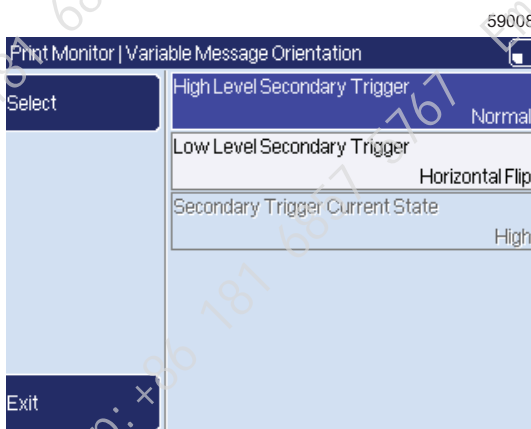

Figure 12. Variable Message Orientation page
- **Secondary Trigger Current State**—this option is for display purposes only and shows which of the two orientation states is active. This depends on the current state of the secondary trigger signal. The trigger can be either High Level (inactive) state or Low Level (active) state. For example, in Figure 12, the secondary trigger is in the High Level (inactive) state, so the message orientation is currently Normal.